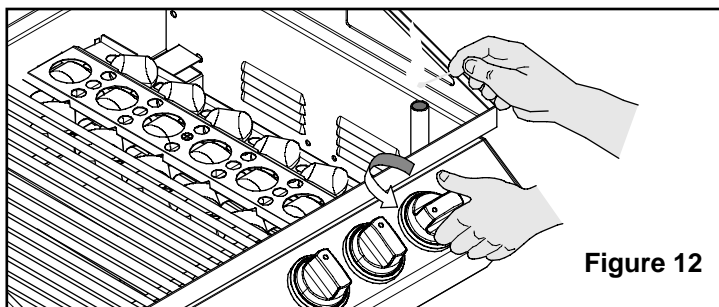

Figure 12
**NOTE:** If grill does not light with a valve, try an adjacent valve, once ignition is achieved, the other burners will light off the lit burner or the Flash Tube may be used (Figure 12).